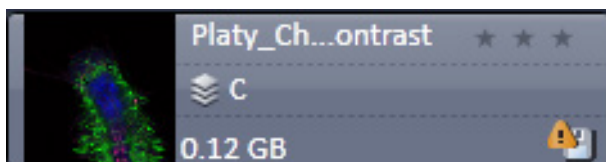

Fig. 642 Image with warning symbol
- In case the image is not saved or has been processed, a warning symbol is displayed on the right side (Fig. 642).